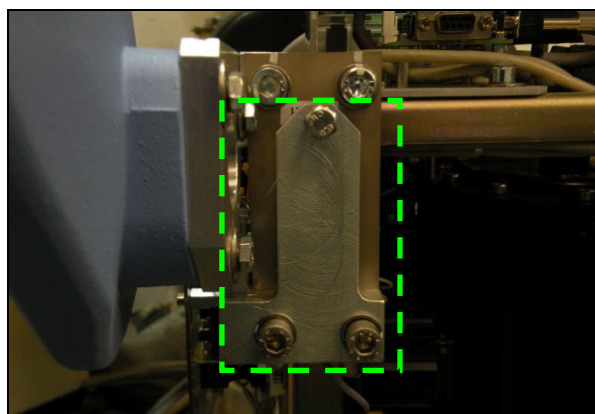

Figure 3
- (5) Mount the bracket with the screws delivered in the kit on the unit, using the screw holes on the lower side of the gauge. See dashed box mark in figure 3.